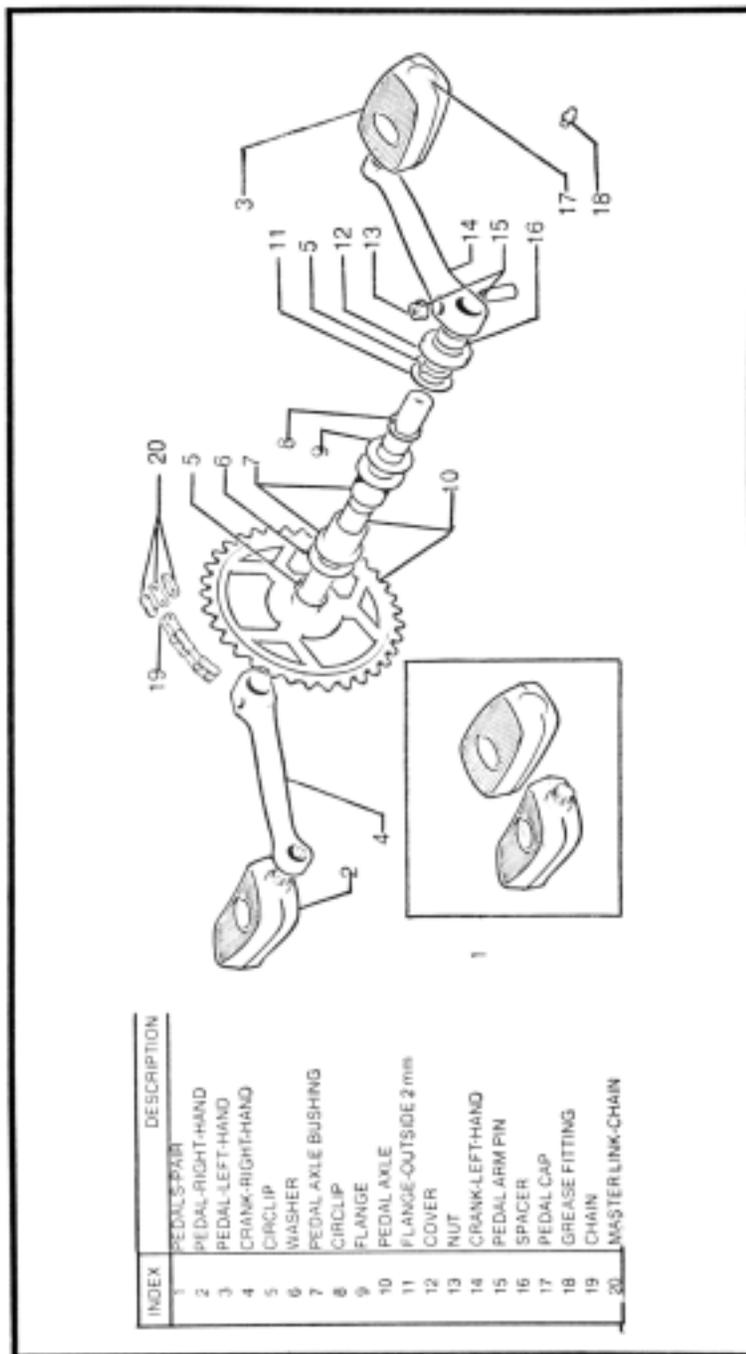

Fig. 7-29. Motobecane pedal crank assembly. The driven pulley floats between spring clips 5 and 8.
Relax tension on the chain and work it off the more accessible of the two sprockets. On belt-drive machines, disengage the belt and uncouple the pulley from the drive sprocket. Remove the spring clip (reference No. 5 in Fig. 7-29) and lift off the pulley. Removing the second spring clip (8) frees the shaft and sprocket assembly from the frame hanger.